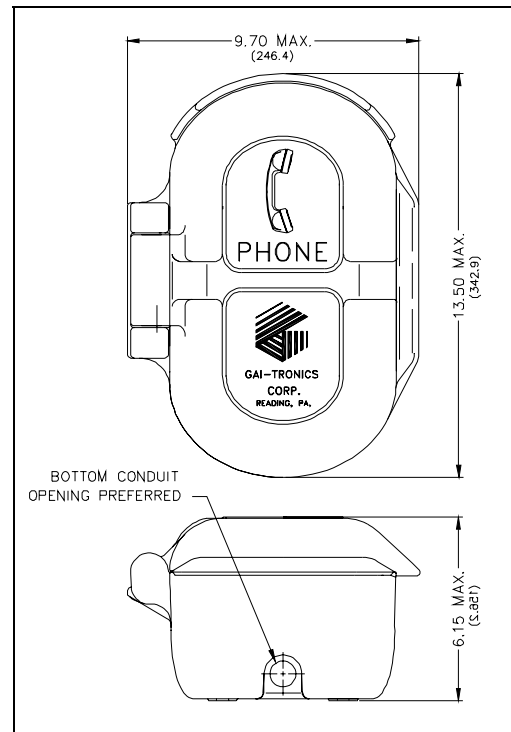

Figure 4. Model 227-003 Outline
5. Install a conduit fitting in one of the  $1/2$ -inch NPT conduit entrances provided at both the top and bottom of the unit, and insert the conduit into the fitting. (The bottom location is preferred. See Figure 4.) Plug the unused access hole using the  $3/8$ -inch Allen drive plug provided.